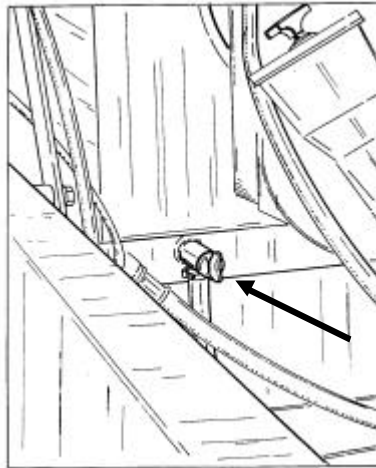

Fig. 5.11. Radiator Drain Plug
3. Open the radiator drain valve on the engine (Fig. 5.11).